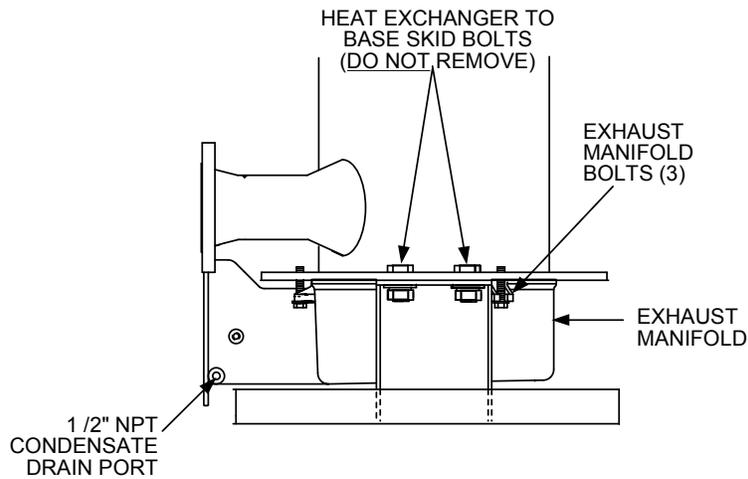

Figure 7. Benchmark 2.0LN Exhaust Manifold Location
The exhaust manifold of the Benchmark 2.0LN is installed at the rear of the unit as shown in Figure 7. Perform the following steps to remove and inspect the manifold:
3. Using a 3/4" socket wrench, remove the three bolts securing the exhaust manifold to the heat exchanger (Figure 7).
8. Align the exhaust manifold with the lower heat exchanger flange and secure it in place using the three (3) bolts removed in step 3. Alternately tighten the bolts to obtain a uniform seal.